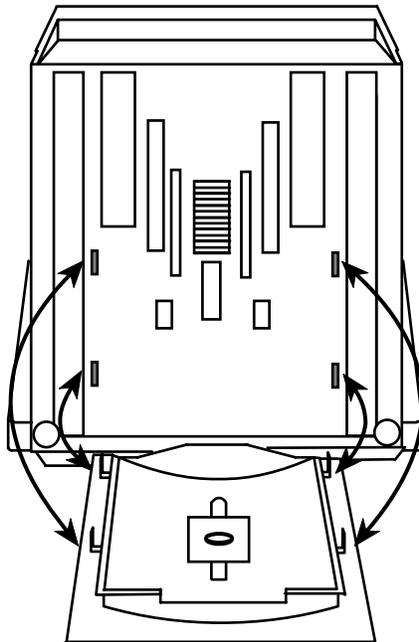

Figure 2-2. Installing the Tilt/Rotate Stand
- 2) Insert the four tabs on the Tilt/Rotate stand into the slots on the bottom of the Display/Logic element and slide the Tilt/Rotate stand up until it locks into place in the slots (see Figure 2-2).